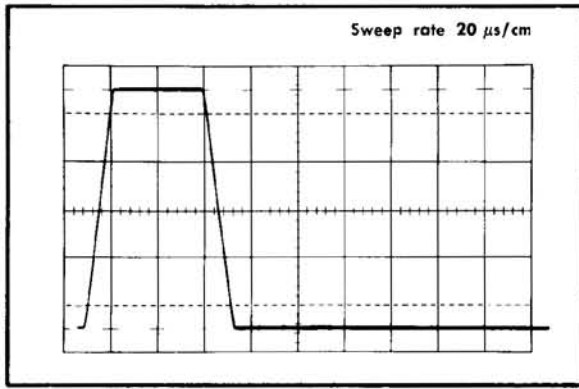

Fig. 4-5. Type 115 Output pulse which should be obtained if instrument is operating properly.
a. If no pulse appears, start at the beginning of troubleshooting chart point (A).
b. If a pulse appears but is improperly shaped (compared to Fig. 4-5), start at point (B) on the troubleshooting chart.
c. If the undelayed pulse is similar to the pulse seen in Fig. 4-5 but a problem arises in other modes of operation or in external triggering, start at point (C) on the troubleshooting chart according to the trouble symptom.